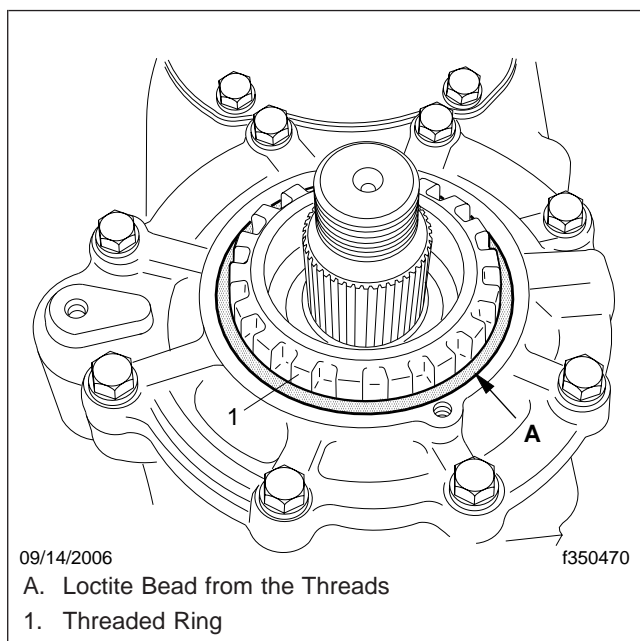

Fig. 3, Preliminary Installation of the New Threaded Ring
8. Install the new threaded ring (without the new input-shaft seal) and turn it clockwise (tighten it) enough to form a uniform bead of sealant all the way around the threaded ring. See Fig. 3.